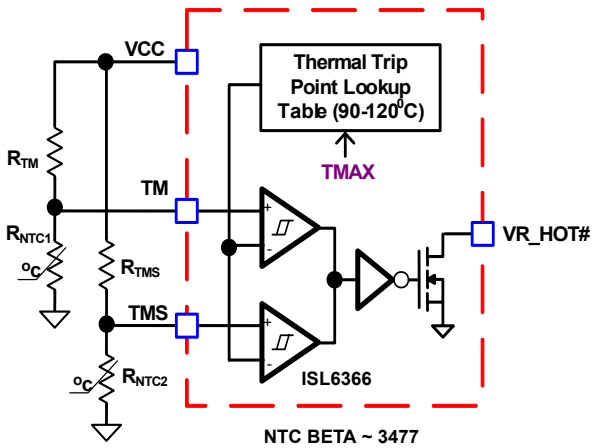
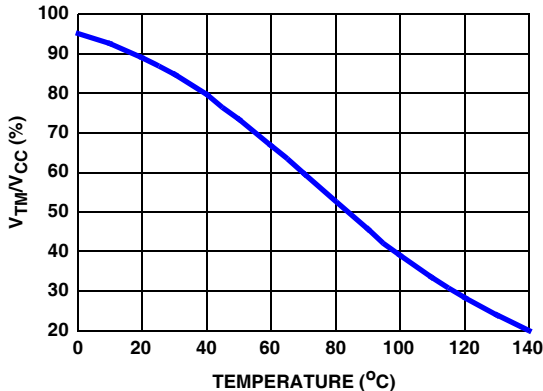

FIGURE 19. BLOCK DIAGRAM OF THERMAL MONITORING FUNCTION
FIGURE 20. THE RATIO OF TM VOLTAGE TO NTC TEMPERATURE WITH RECOMMENDED PARTS
The diagram of thermal monitoring function block is shown in Figure 19. One NTC resistor should be placed close to the respective power stage of the voltage regulator VR0 and VR1 to sense the operational temperature, and one pull-up resistor is needed to form the voltage divider for the TM pin. As the temperature of the power stage increases, the resistance of the NTC will reduce, resulting in the reduced voltage at the TM pin. Figure 20 shows the TM voltage over the temperature for a typical design with a recommended 6.8kΩ NTC (P/N: NTHS0805N02N6801 from Vishay, β = 3477) and 1kΩ resistor R_{TM}. It is recommended to use those resistors for the accurate temperature compensation since the internal thermal digital code is developed based upon these two components. If a different value is used, the temperature coefficient must be close to 3477 and R_{TM} must be scaled accordingly. For instance, say NTC = 10kΩ (β = 3477), then R_{TM} should be 10kΩ/6.8kΩ * 1kΩ = 1.47kΩ.
There is a comparator with hysteresis to compare the TM pin voltage to the threshold set by the TMAX register for VR_HOT# signal. With TMAX set at +100 °C, the VR_HOT# signal is pulled to GND when either TM or TMS voltage is lower than 39.12% of VCC voltage, and is open when both TM and TMS voltages increase to above 40.98% of VCC voltage. The comparator trip point will be programmable by TMAX values. Figure 20 shows the operation of those signals.
Based on the VCC voltage, the ISL6366 converts the TM pin voltage to a 6-bit TM digital signal for temperature compensation. With the non-linear A/D converter of ISL6366, the TM digital signal is linearly proportional to the NTC temperature. For accurate temperature compensation, the ratio of the TM voltage to the NTC temperature of the practical design should be similar to that in Figure 20.
When a different NTC type or different voltage divider is used for the TM function, the TCOMP voltage can also be used to compensate for the difference between the recommended TM voltage curve in Figure 20 and that of the actual design. If the same type NTC ($\beta = 3477$) but different value is used, the pull-up resistor needs to be scaled, as shown in Equation 22:
1. Properly choose the voltage divider for the TM pin to match the TM voltage vs temperature curve with the recommended curve in Figure 20.